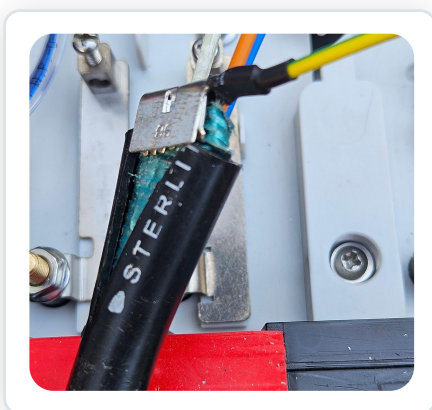

Fig. 2a
- Place the grounding clip in the armored sheath as shown in Fig. 2a.